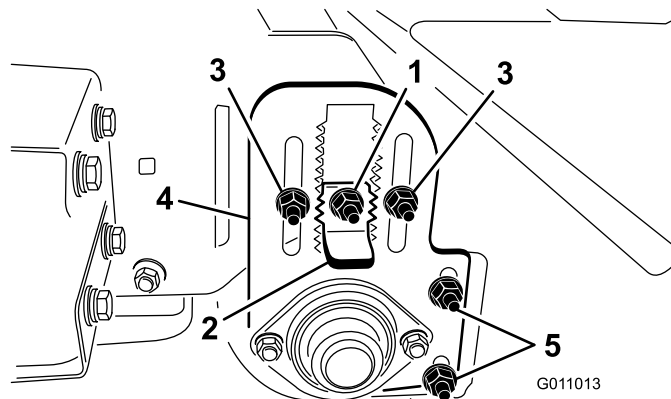

Figure 21
3. Loosen the locknut on the height adjustment key (Figure 21) so it can be pulled out approximately 13 mm (1/2 inch).
4. Loosen the roller-height adjustment locknuts (Figure 21).
5. Pull out the height-adjusting key and move the rear roller up or down by sliding the roller-height adjusting plate to the desired height (Figure 21).
Check and ensure that the roller scraper (Figure 21) is adjusted with a 2 mm (1/16 inch) clearance between the scraper and the roller. Loosen the roller scraper adjusting nuts, position the roller as desired, and tighten the nuts.